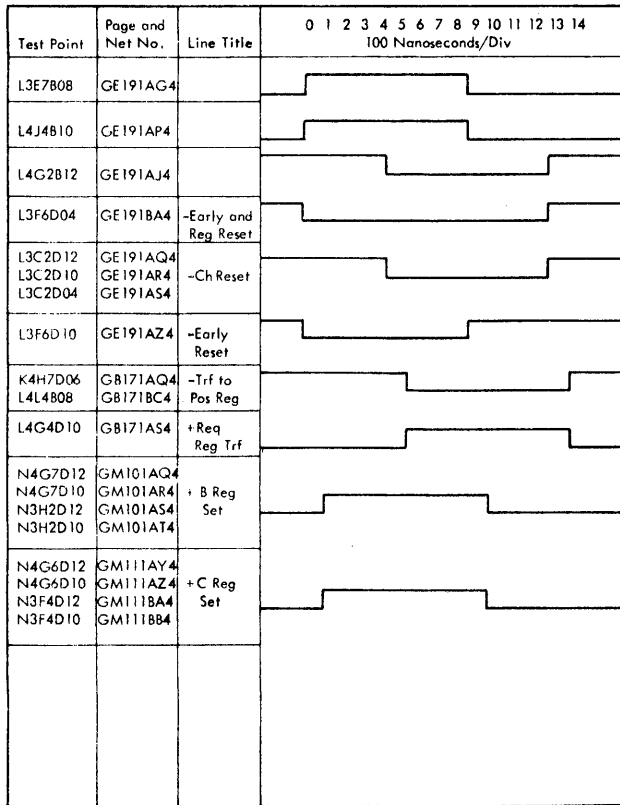

FIGURE 100. RESET PULSES (CLOCK NOT RUNNING)
3. Press system reset to time pulses; check all points on Figure 100.